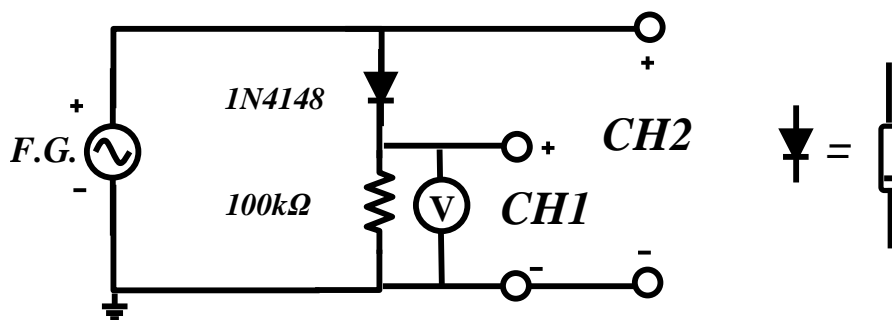

Figure 1.
1. Set the function generator to produce a 5V amplitude, 1 kHz sine wave, with zero DC offset, and connect it to a series diode/resistor circuit as shown in figure 1. Connect channels 1 and 2 of the oscilloscope, and the voltmeter, as shown. Using the Ch 2 menu button, verify that Channel 2 is set for DC coupling.